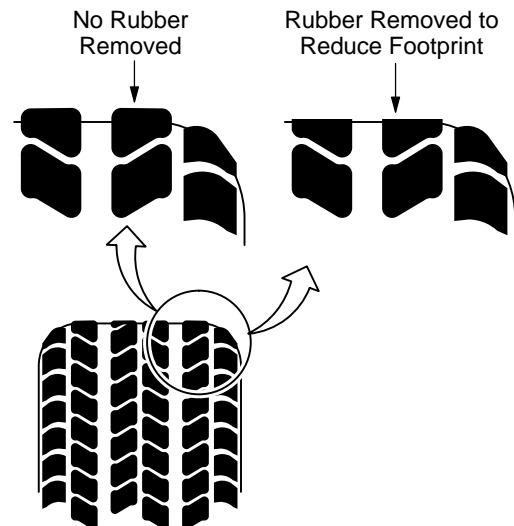

Figure 3-23 Center Grinding
- Reduces the footprint area by reducing tread **length**, at the point of high force variation. See Figure 3-23.